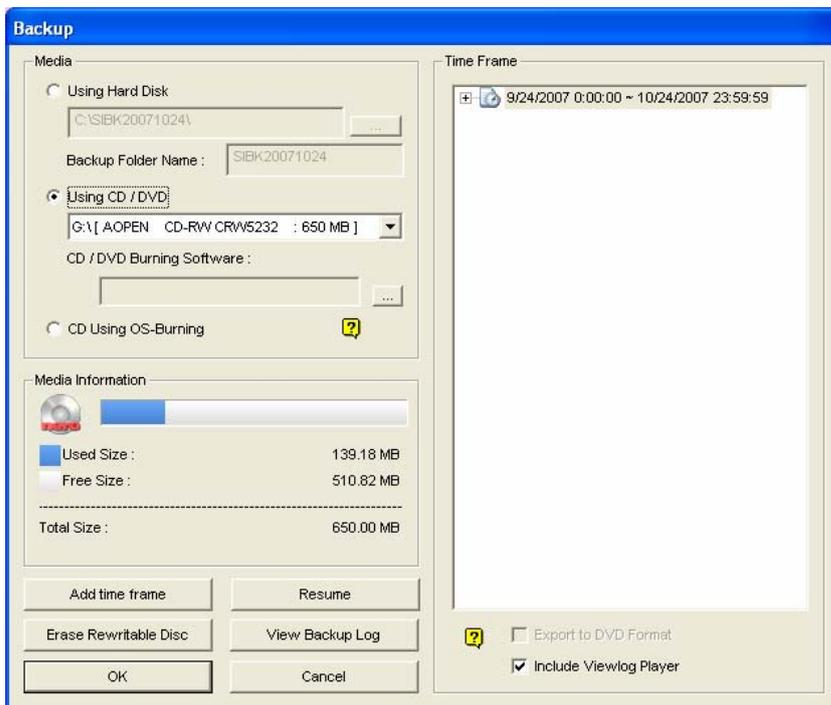

Figure 5-8
4. Click **OK**. The Backup dialog box (Figure 5-8) appears.
- Click the [...] button to assign the desired burning software (.exe file). When you click **OK** on the Backup dialog box (Figure 5-8), the system will ask you to paste the backup files to the CDR-Writer program (Figure 5-4), and call up the assigned burning software for you to paste and backup files.
2. The **Export to DVD Format** option, at the right bottom of Backup dialog box (Figure 5-8), outputs your files in DVD movie format, meaning that it will play in any DVD player that supports writable DVD disks. To enable this option, MPEG2 files recorded by the GV-Hybrid DVR Card / GV-2004 Card / GV-2008 Card need to be selected first (see the Select Camera(s) option), and a DVD±RW disk is required as well.